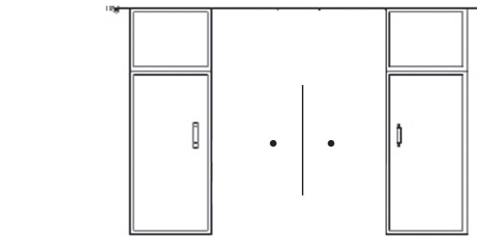

Figure 1
- 1 Find the center of the wall where you are installing the hood. Make sure there is sufficient bracing to hold the weight of the hood. Mark your center line and measure out from the center to find your two mounting points. Make sure your mounting points are level when you mark them. It is recommended to install the hood directly into wood supports. (Figure 1)
- 2 Mark the mounting points and install the two mounting screws provided leaving the heads out $\frac{1}{4}$ " to mount the hood. (Figure 1)